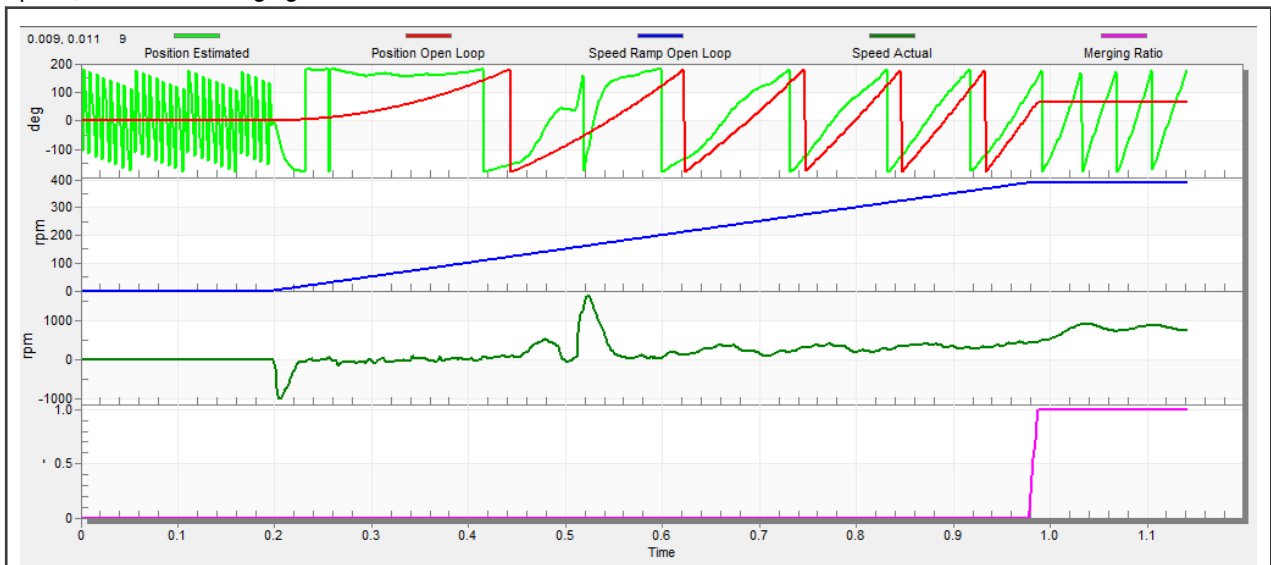

Figure 25. Motor startup
1. The start-up process can be tuned by a set of parameters located in the "Sensorless" tab. Two of them (ramp increment and current) are accessible in both tuning modes. The start-up tuning can be processed in all control modes besides the scalar control. Setting the optimal values results in a proper motor startup. An example start-up state of low-dynamic drives (fans, pumps) is shown in Figure 25.